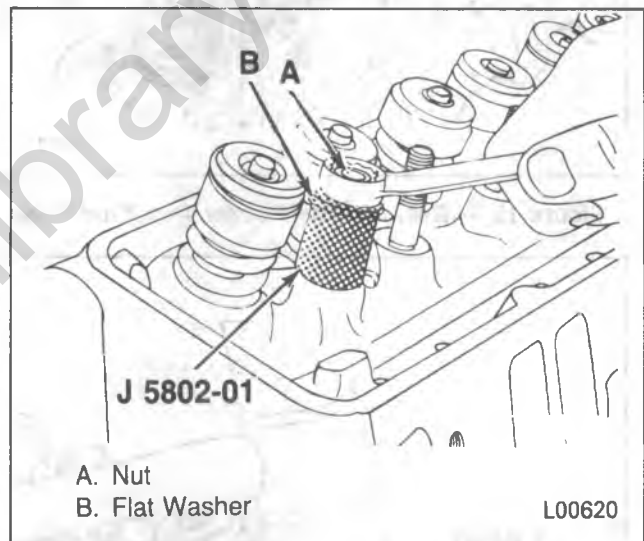

Figure 12 — Removing the Rocker Arm Stud
Remove or Disconnect (Figure 12)
- Place J 5802-01 over the rocker arm stud (figure 12).
- Turn the nut to remove the stud (figure 12).